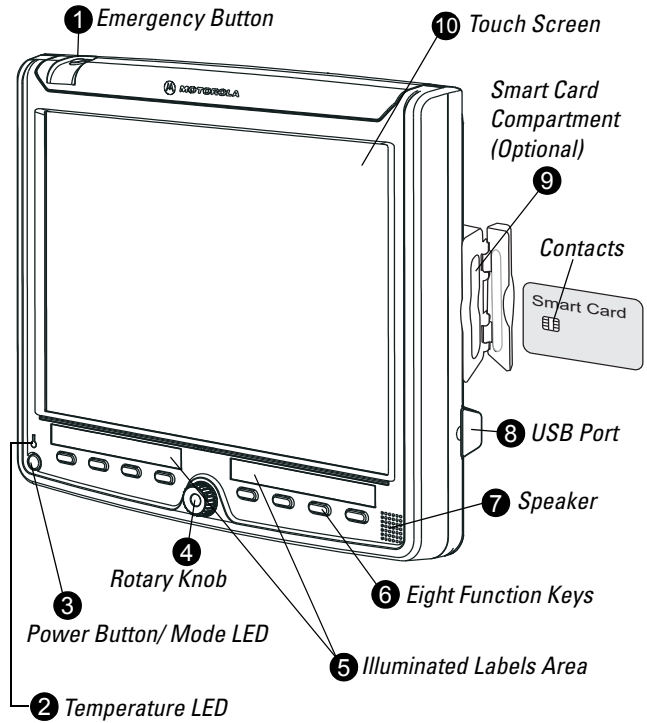

Figure 7. 12.1" Display - Front-Right Side Components
Figure 7 shows the front-right side components of the 12.1" Display.
2. Insert the Smart Card into the Smart Card Compartment (For contacts orientation, see Figure 7.)